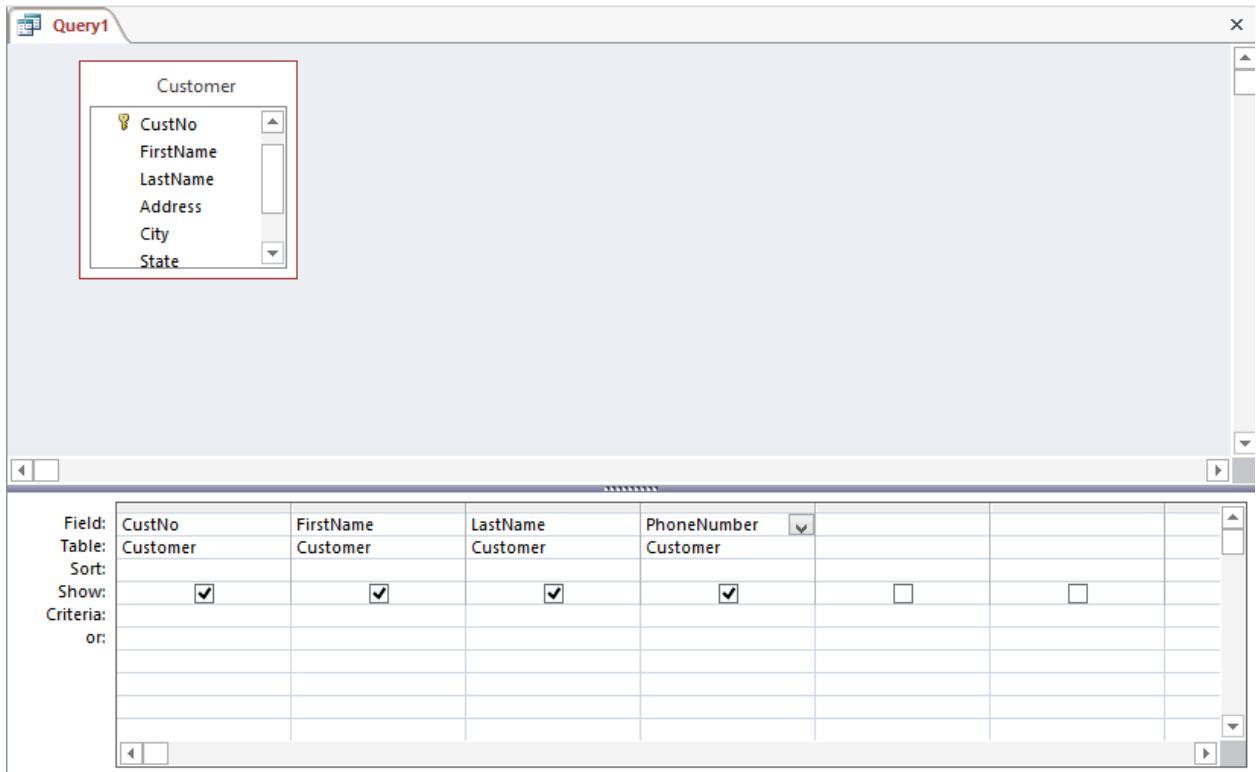

Figure 5: Completed Query Design View
7. Select the Last Field: Select the *PhoneNo* field using the technique demonstrated in step 5. Note that you have to move the small scroll bar down to reveal the *PhoneNo* field. After you have finished, your Query Design window should appear as in Figure 5.